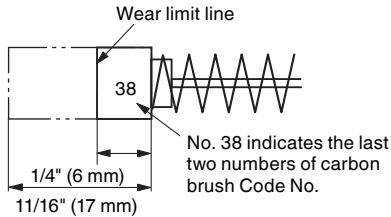
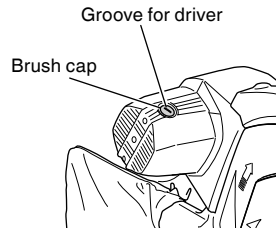

Fig. 53
Fig. 54
### 2. Inspecting the carbon brushes (Fig. 53 and Fig. 54)
Therefore, inspect the carbon brushes periodically and replace them when they have become worn to the wear limit line as shown in Fig. 53.
The carbon brushes can easily be removed after removal of the brush caps (see Fig. 54) with a slotted (minus) screwdriver.
**NOTE:** When replacing the carbon brushes, use only metabo HPT carbon brushes having “38” in the last two digit of its Code No. (see Fig. 53). If you use other carbon brushes, the electric brake will not operate.